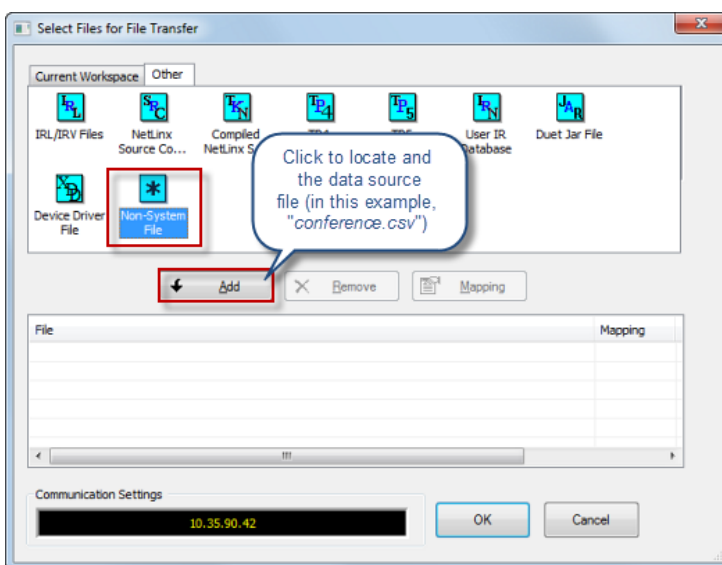

FIG. 160 NetLinx Studio 4 - Select Files for File Transfer dialog
3. Click **Add** to open the *Select Files for File Transfer* dialog, and open the *Other* tab (FIG. 160):